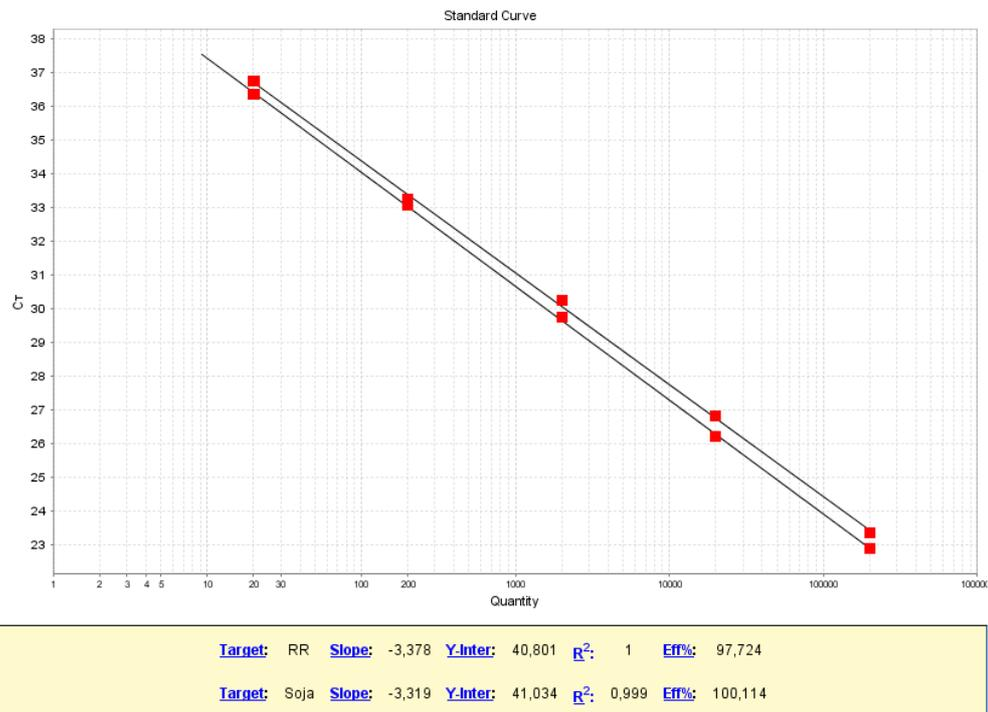

Figure 2: Standard curves for total Maize and TNOS targets. Red dots represent the dilutions of the standard.
05. Vortex and spin the 1.5 mL tubes and dispense 20 μ L per well or tube of 0.2 ml (see the example for three samples in figure 2).